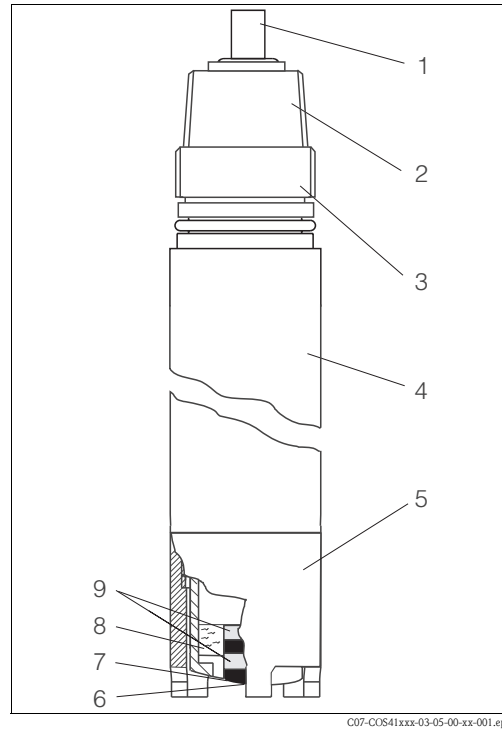

Fig. 17: Sensor design
- Sensor shaft (Fig. 17, pos. 4)
- Protection basket (Fig. 17, pos. 5)